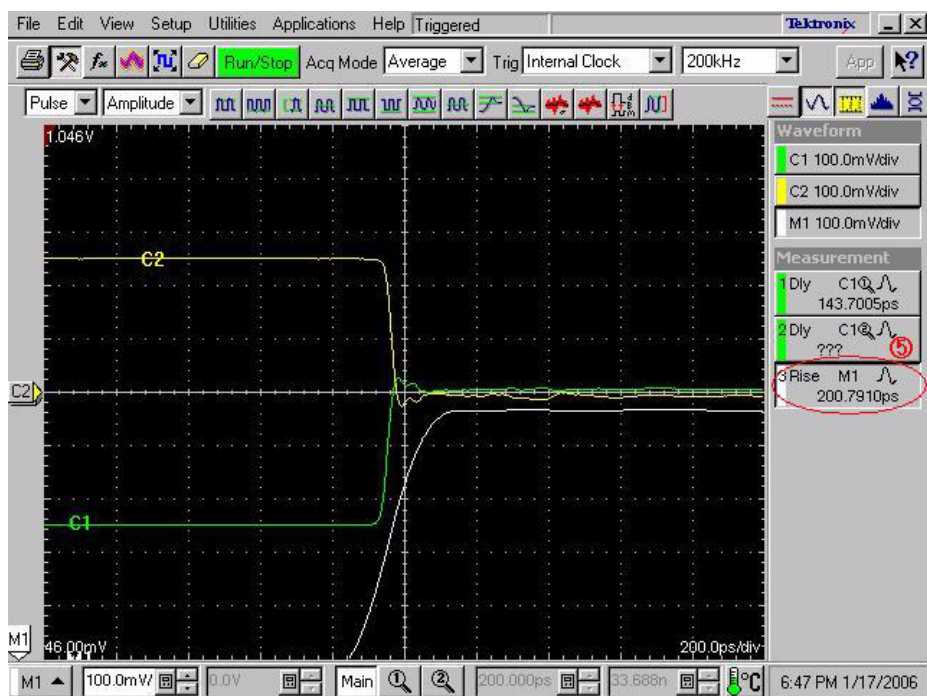
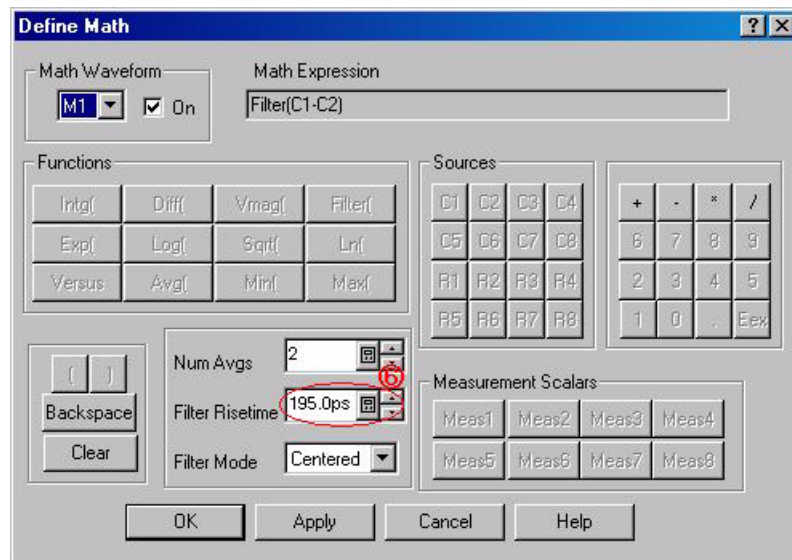

Figure 7: Adjusting the rise time
Figure 8: Changing the Filter Risetime value
7. Adjust the rise time so that the reading of ⑤ in Figure 7 is 200 ps by changing the **Filter Risetime** value (see ⑥ in Figure 8). If you cannot adjust the value to 200 ps exactly, set it to the nearest value below 200 ps.